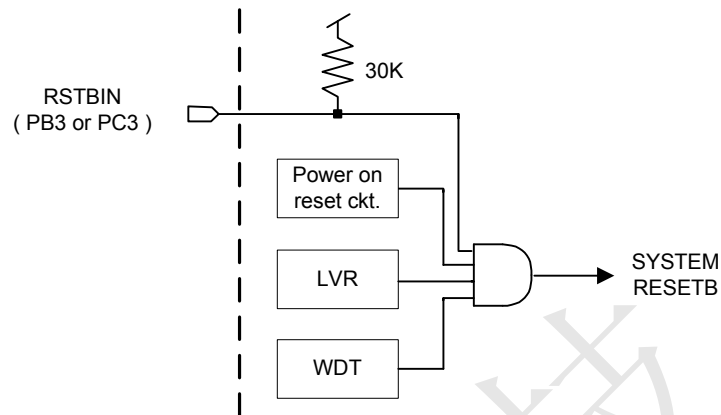

Figure 10.1 Reset system block diagram
CST1602A(C) reset is come from four signals which are power on reset, low voltage reset(LVR), external IO PB3 or PC3 pin (by option) and WDT overflow reset, as shown in Figure 10.1. A dedicated external resetb input pin (by option) is provided to reset this chip, which has 30K ohm pull up resistor. The operation frequency of MCU will go back to BANK0 mode when reset occurred.